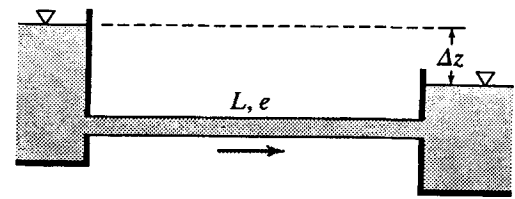

Figure P8.38
8.39 A steel pipe ( $e = 0.065$  mm) 4200 m long is to convey oil ( $\nu = 5.2 \times 10^{-5}$  m2/s) at 300 L/s from a reservoir with surface elevation 247 m to one with surface elevation 156 m (Fig. P8.38). Theoretically what pipe size is required?